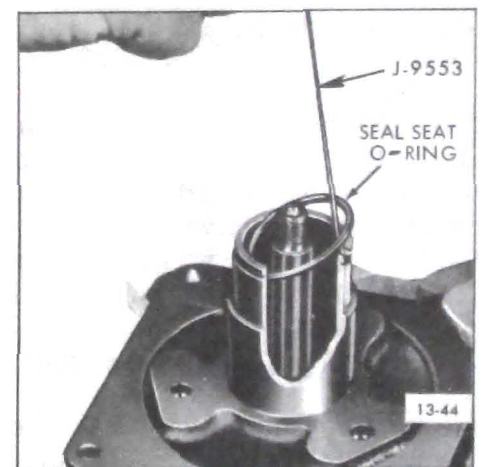

Figure 13-67 Removing Seal Seat 'O' Ring
9. Remove the seal seat "O" ring, using Tool J-9553 (see Figure 13-67).